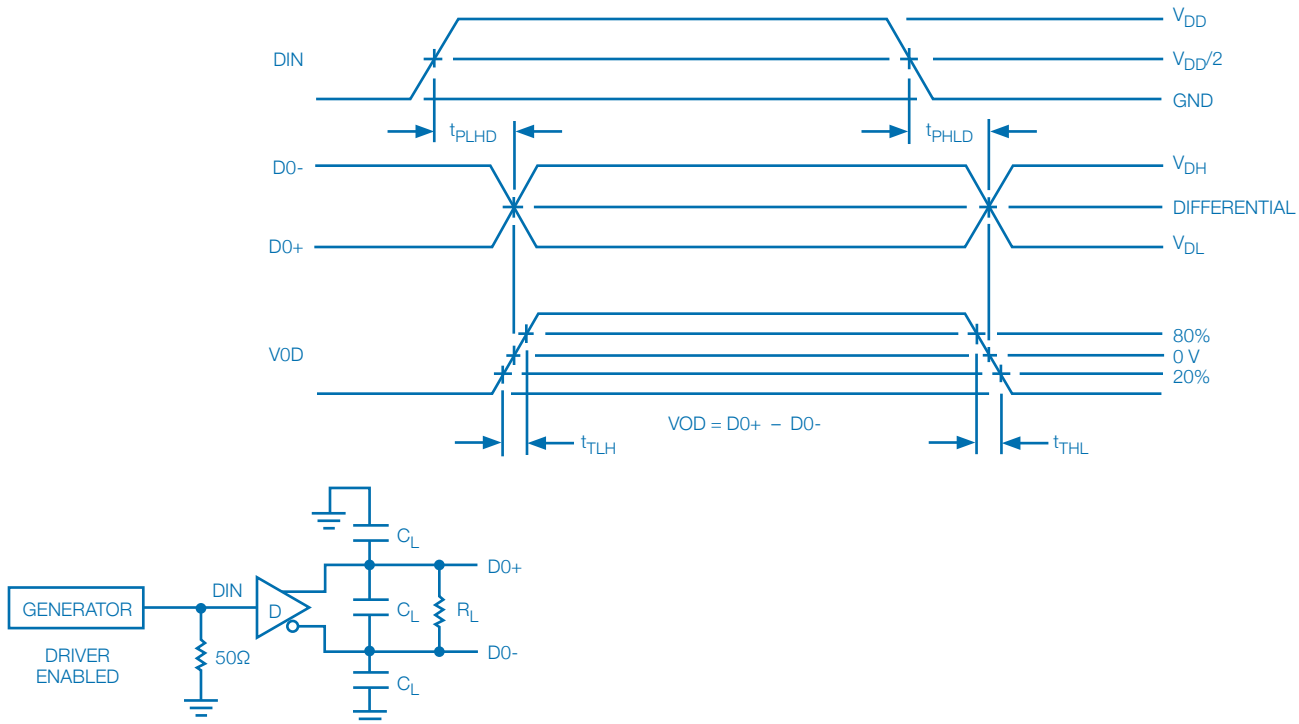

Figure 1
(3) Refer to Figure 1. ($R_{\text{L}}=100$ Ohms, $C_{\text{L}}=50$ pF).